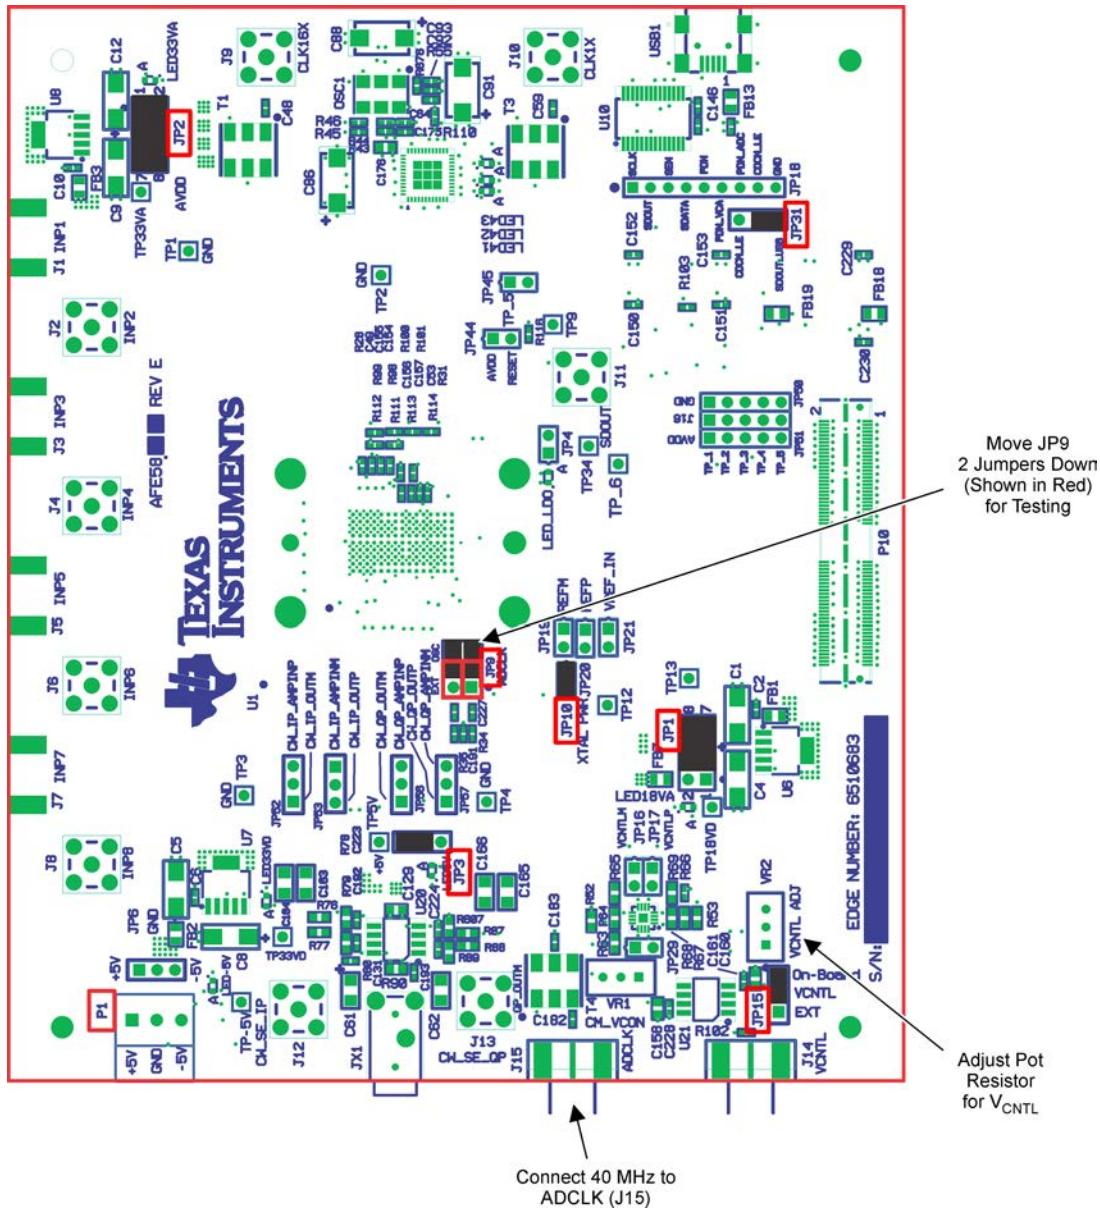

Figure 1. AFE5807EVM Basic Configuration
Figure 1 shows the default configuration of the EVM from the factory. The accompanying list identifies the basic components on the EVM board.
6. JP31 always set as Figure 1.
Two EVMs are required to evaluate the AFE5807 device. The following illustration shows the exact setup of these two boards and external connectors. For the default configuration as shown in Figure 1, it is unnecessary to have an external sampling clock and external Vctrl supply. The onboard CMOS clock and onboard Vctrl are used.